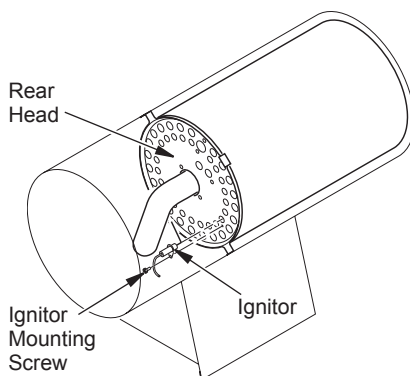

Figure 15 - Removing Ignitor Mounting Screw and Ignitor
3. Remove ignitor mounting screw from rear head using nut-driver or standard screwdriver (see Figure 15).